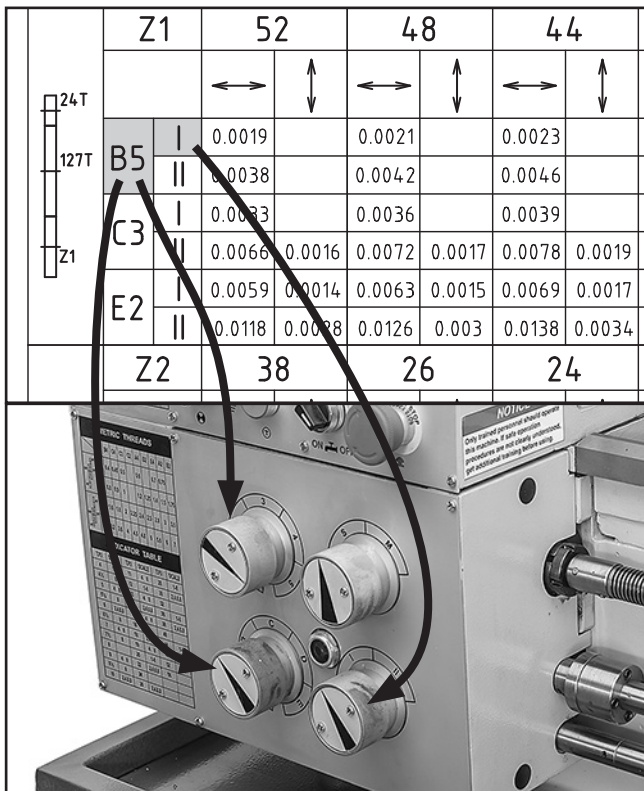

Figure 70. Feed control settings for a 0.0021" carriage feed rate.
6. Move quick-change gearbox dials to positions **B5SI**, as shown in **Figure 70**.